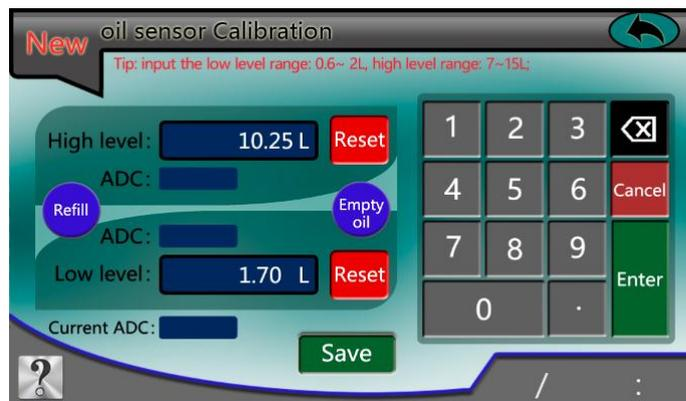

Fig. 39
11.7 Enter the oil volume 10.25L into the edit box of 'High level'. Wait until the final ADC number shows and press 'Enter'. If a mistake is made, tap 'Reset' and enter the correct number (Fig. 39).
11.8 Now we confirmed the value of high liquid level and low liquid level, press 'Save' and finish calibration (Fig. 39).